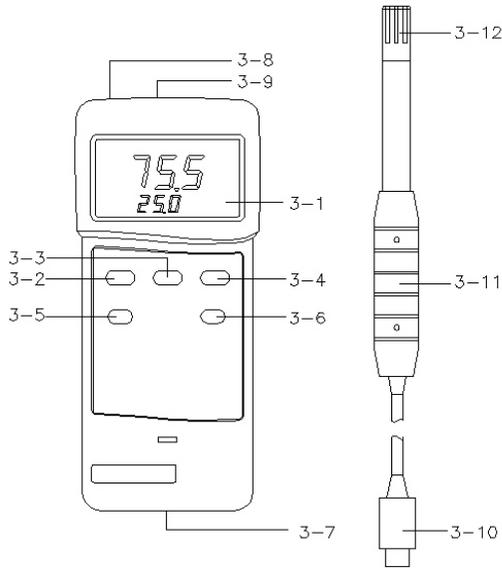

Fig. 1
- 1) Plug the " Probe Plug " (3-10, Fig. 1) into the " Probe Input Socket " (3-9, Fig. 1).
- 2) Power on the meter by pressing the " Power Button " (3-2, Fig. 1), the LCD shows the unit " %RH " & " °C " at the same time and measured value will show on the display (upper display is Humidity value, the lower display is the temperature value) .
The procedures of " Dew point measurement " are same as the above " 4-1 Humidity and Temperature measurement " except select the " Dew point " function by pressing the " Function Button " (3-5, Fig. 1) once, the LCD will show the unit " DEW " & " °C (or °F) . The upper display show the Dew point value, the lower display show the temperature value.
During the measurement, press the " Hold Button " (3-3, Fig. 1) once will hold the measured value & the LCD will display a " HOLD " symbol.
- * The data record function records the maximum and minimum readings. Press the " REC Button " (3-4, Fig. 1) once to start the Data Record function and there will be a " REC. " symbol on the display.
- a) Press the " REC Button " (3-4, Fig. 1) once, the " REC. MAX. " symbol along with the maximum value will appear on the display.
If intend to delete the maximum value, just press the " Hold Button " (3-3, Fig. 1) once, then the display will show the " REC. " symbol only & execute the memory function continuously.
- b) Press the " REC Button " (3-4, Fig. 1) again, the " REC. MIN. " symbol along with the minimum value will appear on the display.
If intend to delete the minimum value, just press the " Hold Button " (3-3, Fig. 1) once, then the display will show the " REC. " symbol only & execute the memory function continuously.
a) Press the " REC Button " (3-4, Fig. 1) once to start the Data Record function and there will be a " REC. " symbol on the display.
Press the " Logger Button " (3-6, Fig. 1) once to start the Data Logger function. The upper display will show the sampling time in seconds (For example, 1, 2, 10, 30, 60, 600, 1800, 3600) once a while then revert to the normal display screen. In the same the top display will show the marker " A ", the marker " A " will be flashed per sampling time. Now the Date Logger function is executed.
Press the " Logger Button " (3-6, Fig. 1) once will save the data one time into the memory, at the same time the marker " A " will be flashed once a while.
If Press the " Logger Button " (3-6, Fig. 1) once, both the mark " A ", upper display and lower display are flashed, it indicate the memory data already over 1000 no. and the memory is full.
- c) During the Data Logger function is executed, press the " Logger Button " (3-6, Fig. 1) once will stop to execute the data logger function, the mark " A " will disappeared. If press the " Logger Button " (3-6, Fig. 1) once again will continuous the Data Logger function.
a. Hold the " Set Button " (3-6, Fig. 1) at least two seconds until the lower display show " COde ", then release the " Set Button ", the upper display will show " 1000 ".
After display show " COde 1000 ", push the " Enter Button " (3-4, Fig. 1) once will go to the following b. procedures.
* If push the " ESC Button " (3-3, Fig. 1) will escape the selecting function and return to the normal measuring display.
b. One by one to press the " Enter Button " (3-4, Fig. 1) once a while to select the five main function that show on the lower display as :
Use the " Set Button " to select the main function to " °F ", then one by one to press the " Function Button " (3-5, Fig. 1) a while will determine the default Temp. unit to °C or °F
After the function is determined, press the " Enter Button " (3-4, Fig. 1) to confirm and save the selection data into memory IC permanently. Press the " Esc Button " (3-3, Fig. 1) will revert to normal display screen.
Use the " Set Button " to select the main function to " SEC ", (SECOND) then one by one to press the " Function Button " (3-5, Fig. 1) a while will determine the default Data Logger sampling time value (seconds).
After the function is determined, press the " Enter Button " (3-4, Fig. 1) to confirm save the selection data into memory IC permanently. Press the " Esc Button " (3-3, Fig. 1) will revert to normal display screen.
Use the " Set Button " to select the main function to " Cnt " (count), then the upper display will show the balance data numbers that exist into the memory (allow memorize data no.). Press the " Esc Button " (3-3, Fig. 1) will revert to normal display screen.
- 2) Press the " Function Button " (3-5, Fig. 1) once, the upper display will show " 0 ", if intend to clear the existing saving data from the memory, just press the " Enter Button " (3-4, Fig. 1) to confirm, then the existing data will clear from the memory IC.
Before Press the " Function Button " (3-5, Fig. 1) to confirm, it can press the " Esc Button " (3-3, Fig. 1) to exist the clear function and the data will be not cleared.
Use the " Set Button " to select the main function to " OFF ", then one by one to press the " Function Button " (3-5, Fig. 1) a while will determine the default the power management system is Auto Power Off enable or disable.
After the function is determined, press the " Enter Button " (3-4, Fig. 1) to save the selection function into memory IC permanently. Press the " Esc Button " (3-3. Fig. 1) will revert to normal display screen.
- 2) Press the " Send Button " (3-5, Fig. 1) at least 2 seconds until the lower display show " 232 ", then release the button.
- 3) Push the " Send Button " (3-5, Fig. 1) once, then both the upper and the lower display will flash slowly, at the same the storage data logger data will be send out the meter from the " RS-232 Output Terminal " (3-8, Fig. 1).
The instrument has RS232 PC serial interface via a 3.5 mm terminal (3-8, Fig. 1).